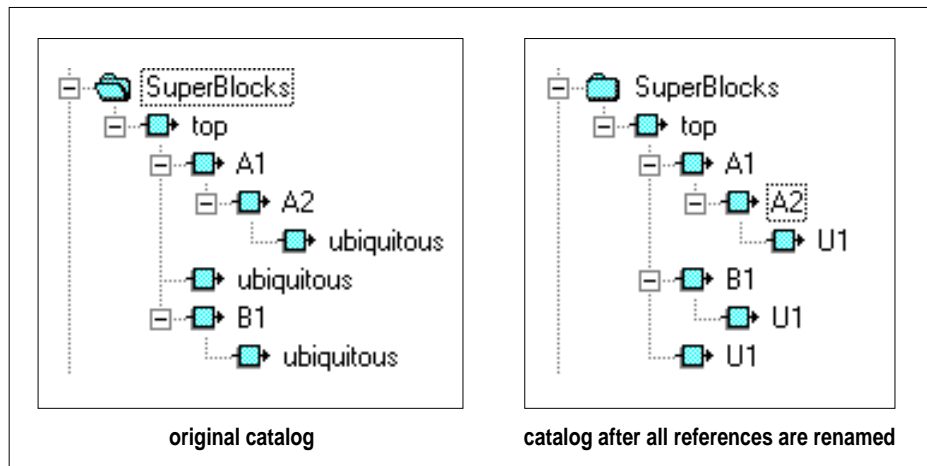

FIGURE 3-8 Renaming a SuperBlock and All References
- If you rename a SuperBlock and specify **Rename All References**, the SuperBlock definition and all references to it will be given the specified name. The original is removed from the catalog. This is demonstrated in Figure 3-8 on page 3-15, where the SuperBlock “ubiquitous” has been renamed to “U1”.